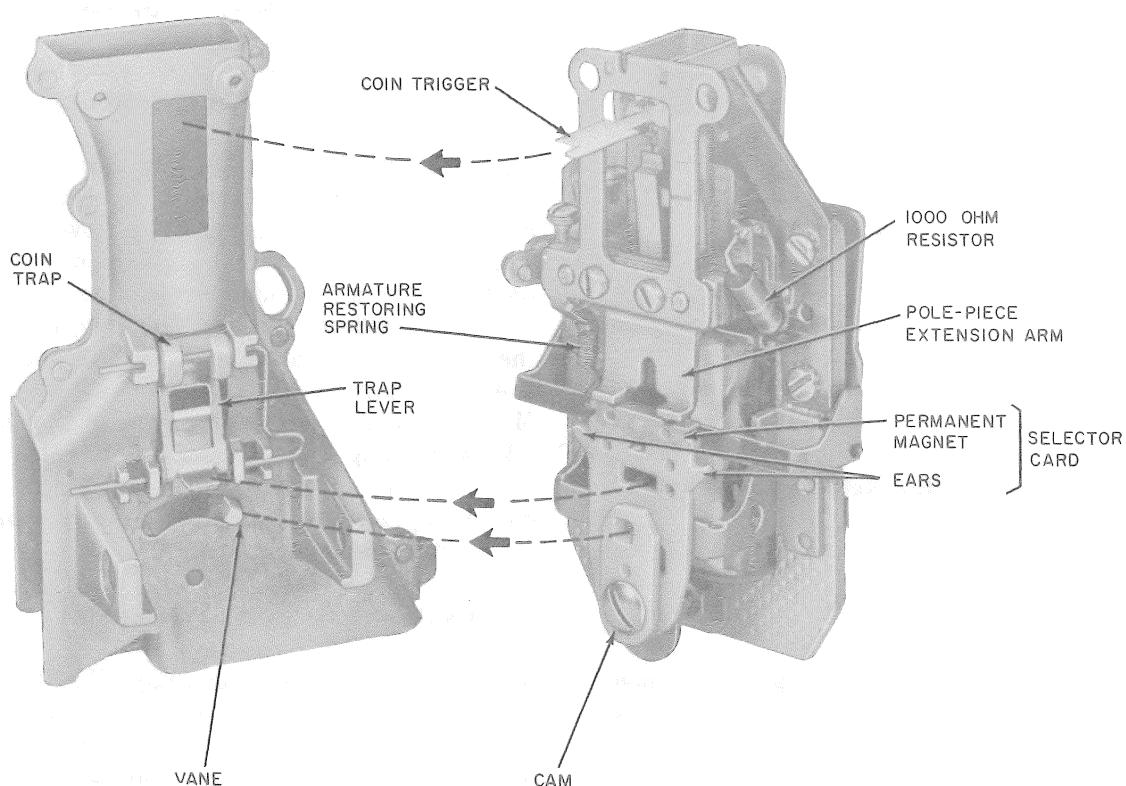

Fig. 29—Coin Hopper and Rear View of Coin Relay
5.37 The single-coil coin relay (Fig. 16) consists of a nonpolarized armature and relay coil designed for fast operation and slow release. Collect and refund operation of the coin vane is controlled by a polarized selector card located at the back of the relay assembly as shown in Fig. 29. The